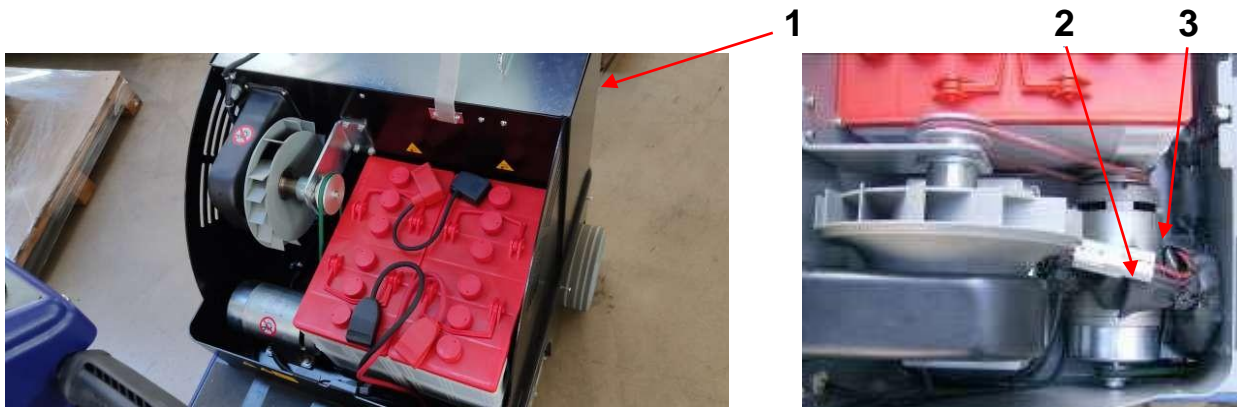

Figure 4.7.5
- Lift the seat cover to expose the battery compartment and vacuum motor (figure 4.7.5 detail 1).
- Disconnect the vacuum motor plug (figure 4.7.5 detail 2).
- Remove vacuum motor (figure 4.7.5 detail 3).